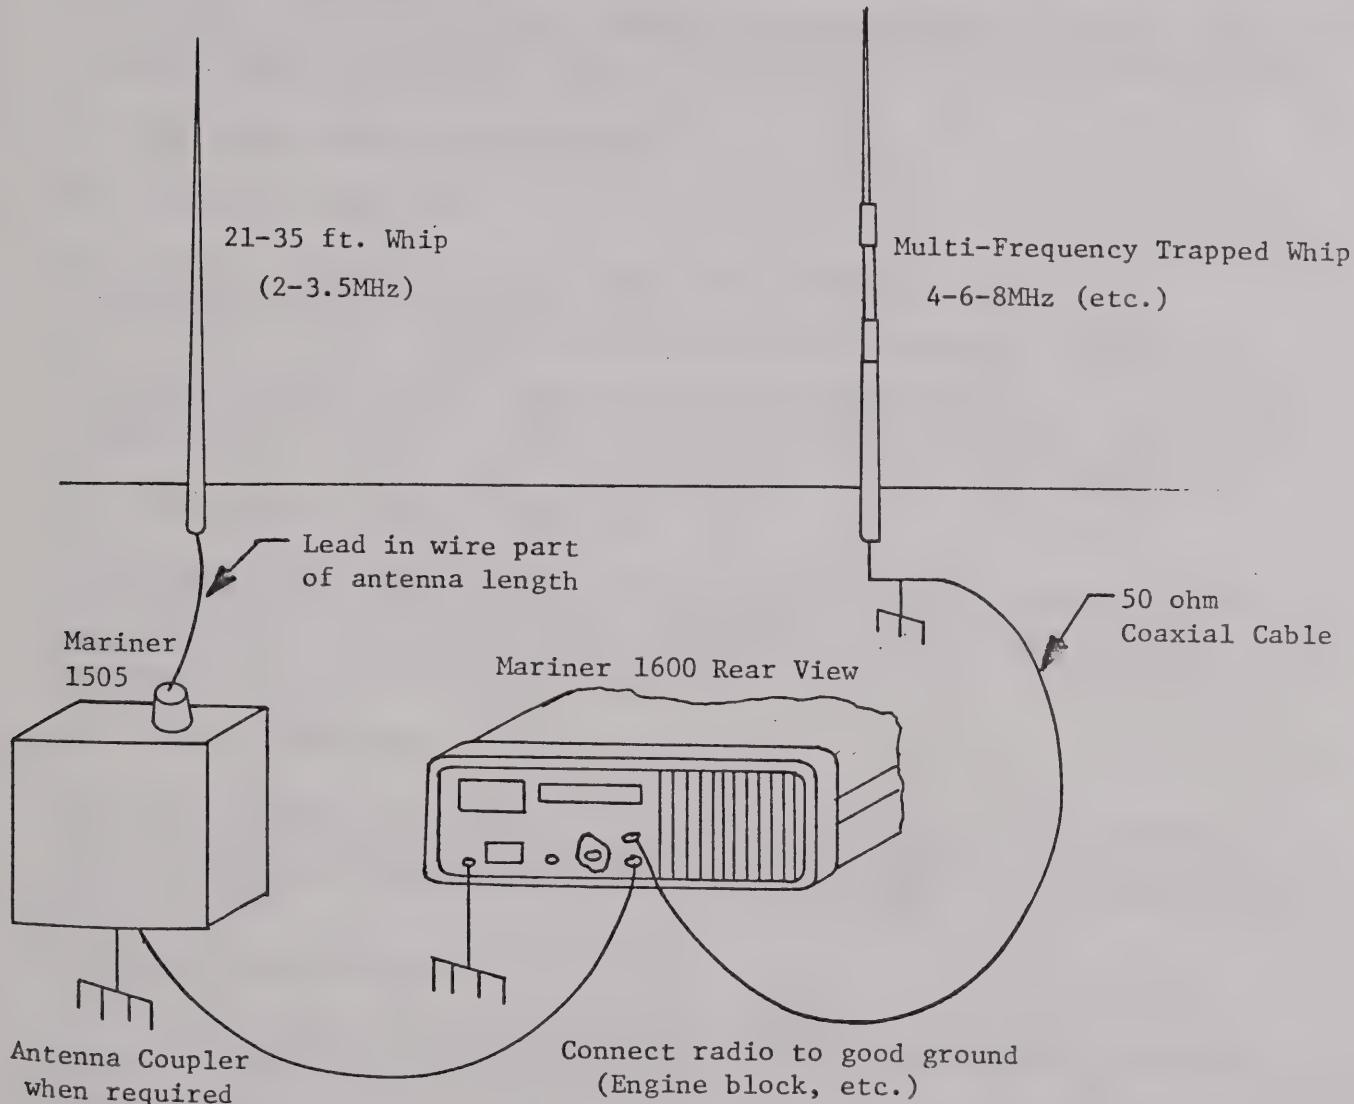

Fig. 7
Figure 7 shows a typical installation consisting of three parts: (1) The radio equipment; (2) Interconnecting cables; (3) The antenna system.